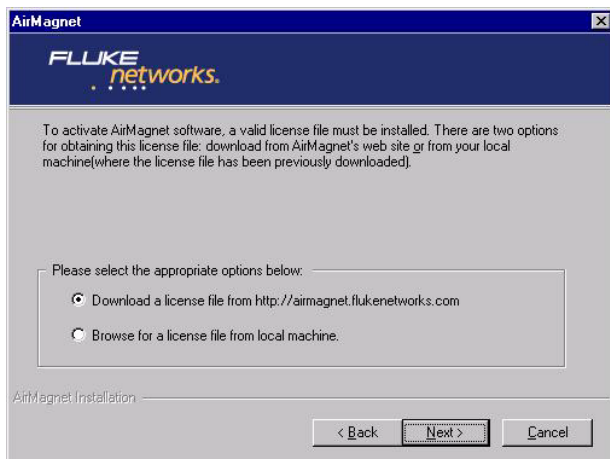

Figure 2-6: Obtaining server license file
- 10) Select a pre-configured policy profile that best matches your WLAN environment, and click **Next**. The license file installation screen appears. See Figure 2-6.